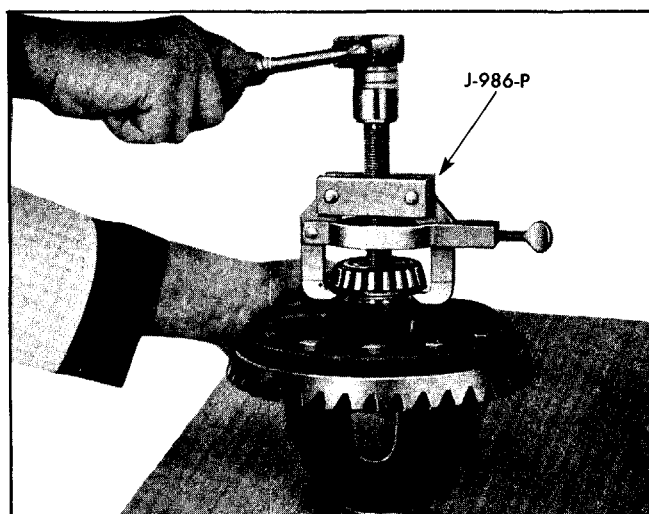

Fig. 4-43 Removing Side Bearing With Puller J-986-P
a. Remove side bearing from case using Remover J-986-P (Fig. 4-43). Hooks of puller must be placed in recesses in differential case.
4. Remove side bearings using Puller J-986-P (Fig. 4-43). **CAUTION:** Be sure ends of puller arms are in recesses in sides of hub and fully against inner race of bearing.